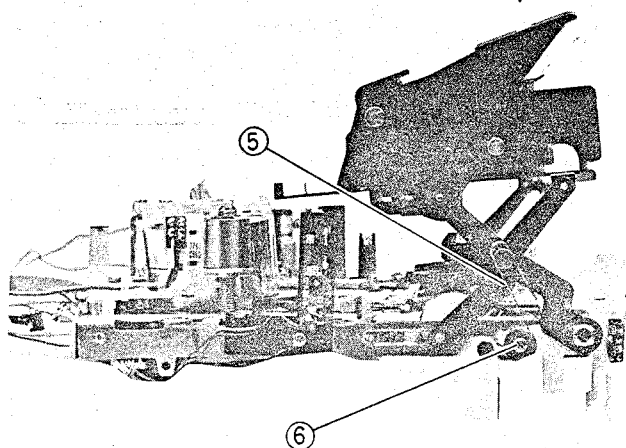

Fig. 2-49 Cassette Holder Removal
4. Release one (1) tab and lift up the cassette holder. (See Fig. 2-49)
5. Remove the cassette holder spring. (See Fig. 2-49)
6. Remove two (2) screws holding the cassette holder. (See Figs. 2-49, 2-50)